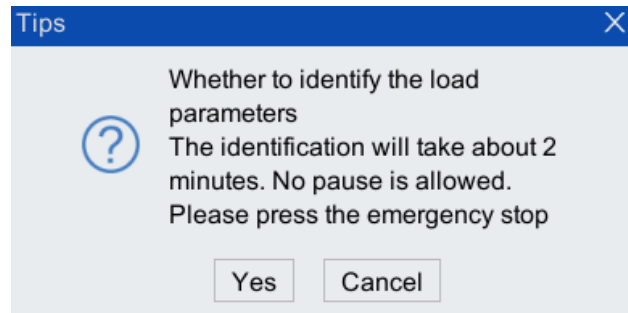

Figure 5-111 Prompt window
Step5.The prompt interface shown in Figure 5-111 will pop up, and the robot will automatically adjust to the reference position and start load identification. The entire identification process takes about two minutes, and no pause is allowed during this period. If an emergency stop is needed, please press the emergency stop button on the teach pendant.